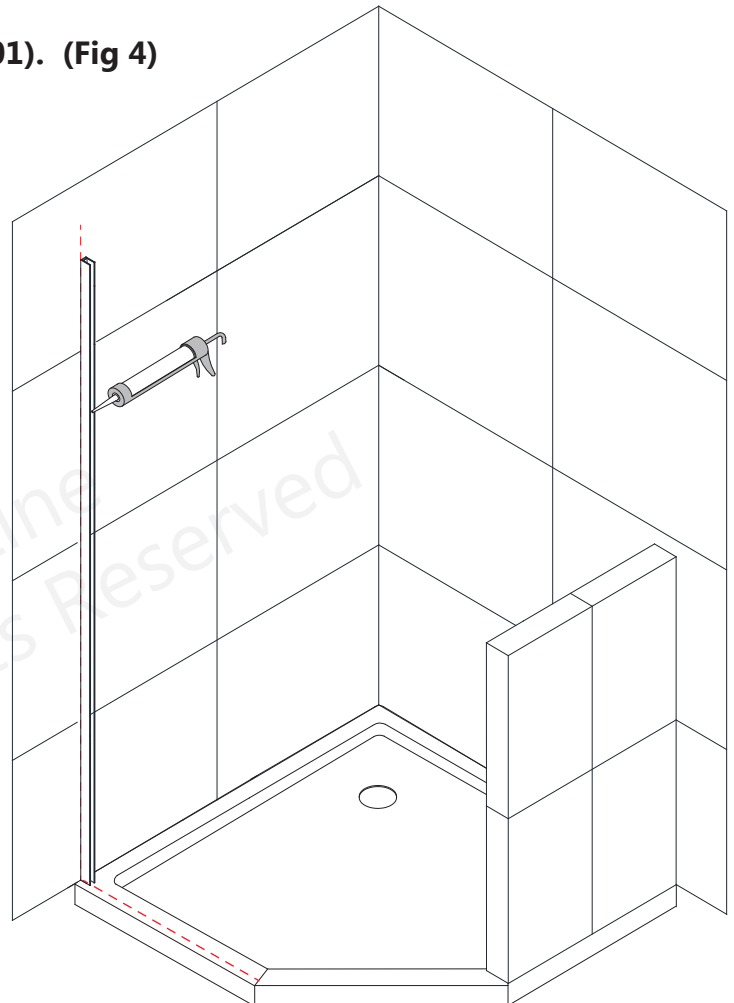

Fig 4
4. Apply silicone into the installed **U-Channel (#01)**. (**Fig 4**)